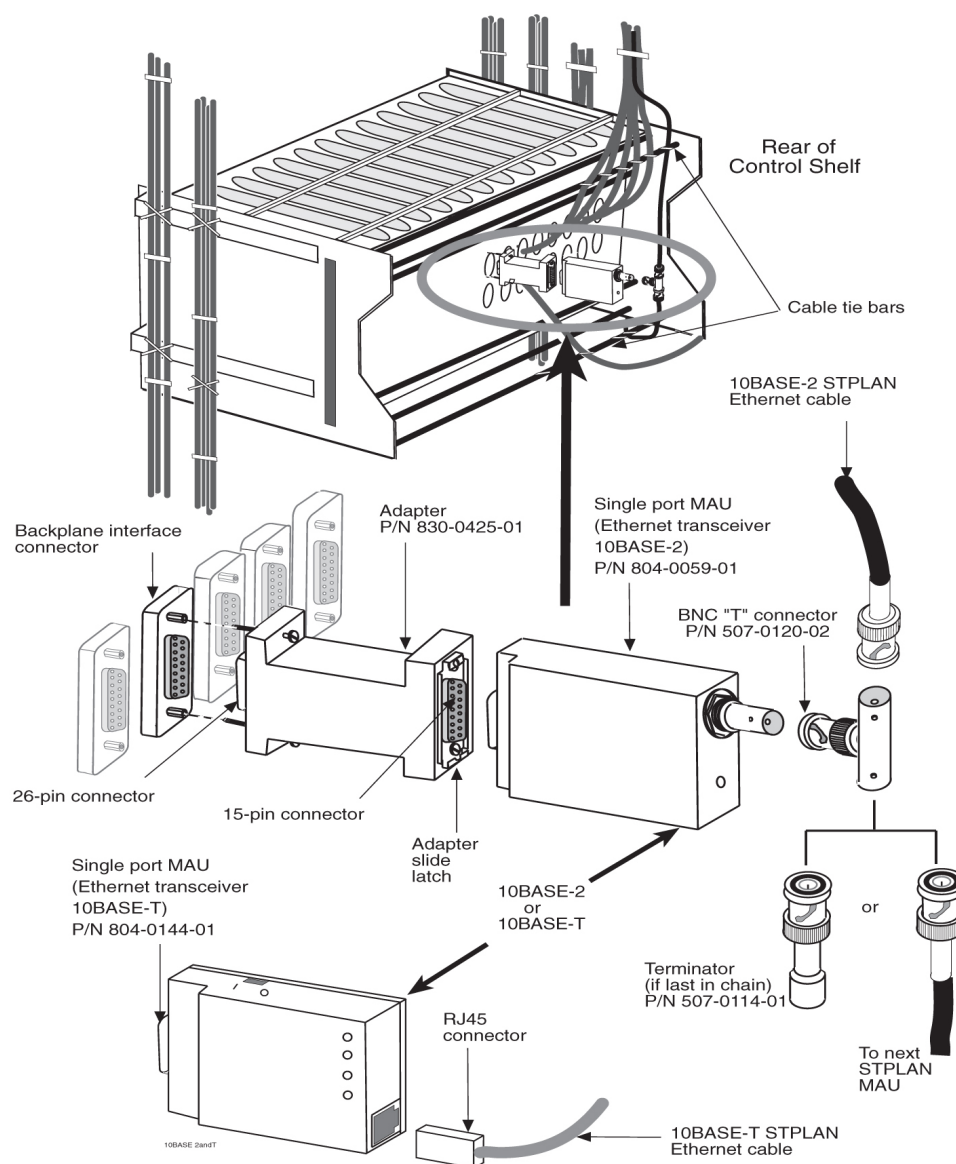

Figure 75: LAN Ethernet Cable Installation
This section contains the procedures for installing the Local Area Network (LAN) Ethernet cable, see Figure 75: LAN Ethernet Cable Installation for the location of equipment. The LAN provides selected
4. Secure each cable, see Figure 75: LAN Ethernet Cable Installation to its respective connector on the system backplane as follows: